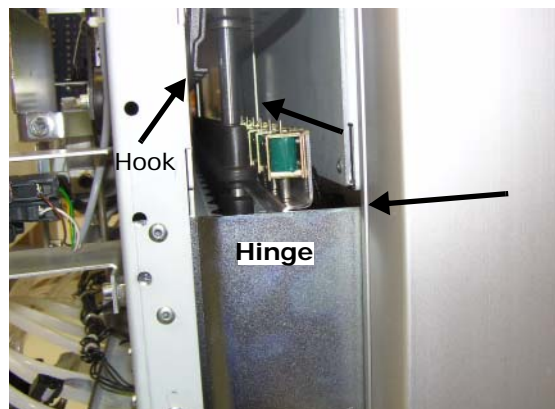

Figure 33: The solenoids have to be in straight line in the solenoid rail.
- Check that the horizontal part of the solenoid rail is on same level with the top of the hinge on the side of the dispensing module, see figure 33.